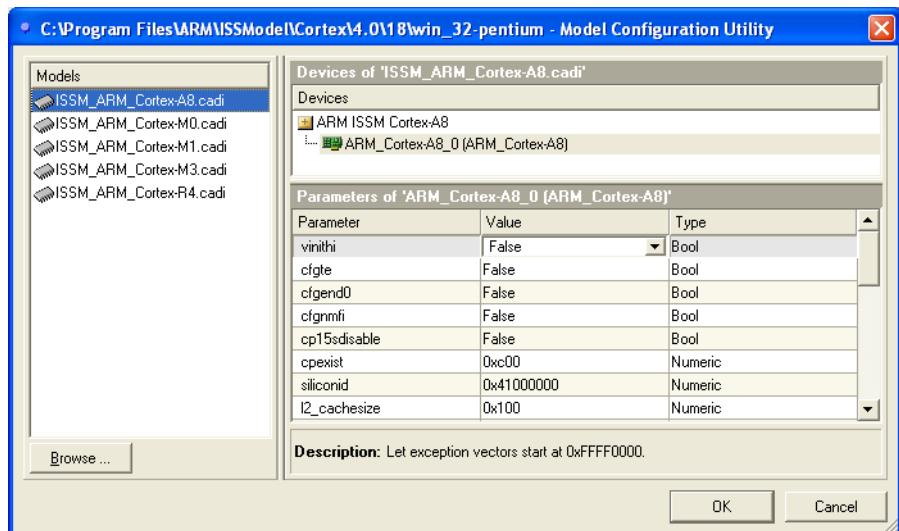

Figure 3-6 Model Configuration Utility dialog box (ISSM)
3. Click **Add** for the Instruction Set System Model (ISSM) Debug Interface. The Model Configuration Utility dialog box is displayed. Figure 3-6 shows an example: